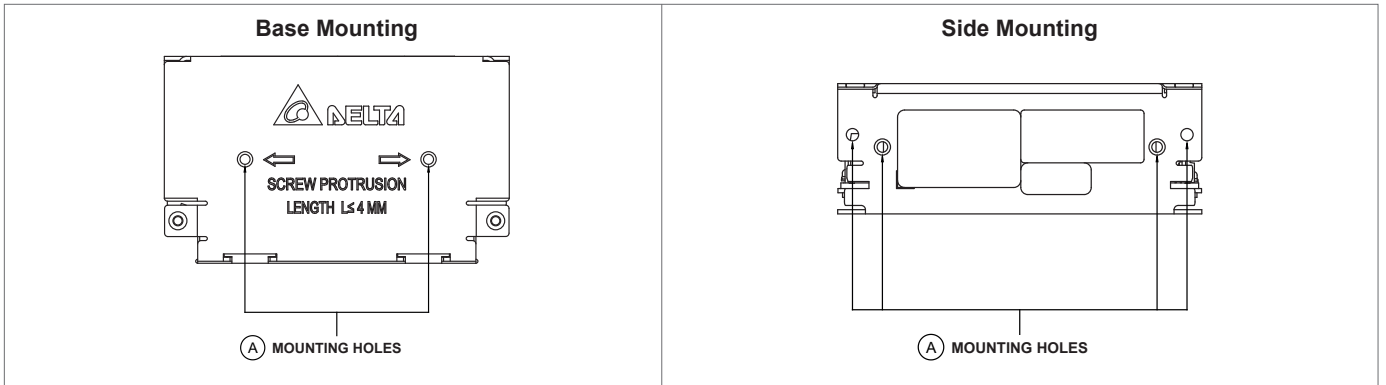

Fig. 2.1. Mounting Hole Locations
► PJU-60W□□□□ / PJU-60W□□□□: Enclosed / L Frame (Refer to Fig. 2.1, 2.2)
- The power supply shall be mounted on a sturdy heat conducting surface with minimum of 2 mounting holes (Fig. 2.1, (A)) for base mounting or side mounting. Use M3 screws only. The screw penetration into the chassis must be 3.5-4 mm. For the other mounting holes without screw threads, please use suitable screw and nut.